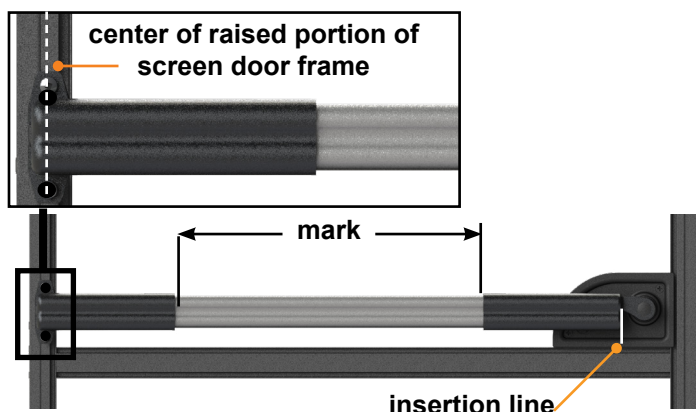

Fig.9
3. From inside the screen door, dry fit the assembly to the door's width. Insert the lever side sleeve up to the insertion line (Fig.6) on the inside push bar lever handle (Fig.9) and align the mount bracket (Fig.7) on the door hinge side so that the bar rests parallel to the frame of the door.
4. Mark the push bar dimensions with a non-permanent marker (Fig.9).